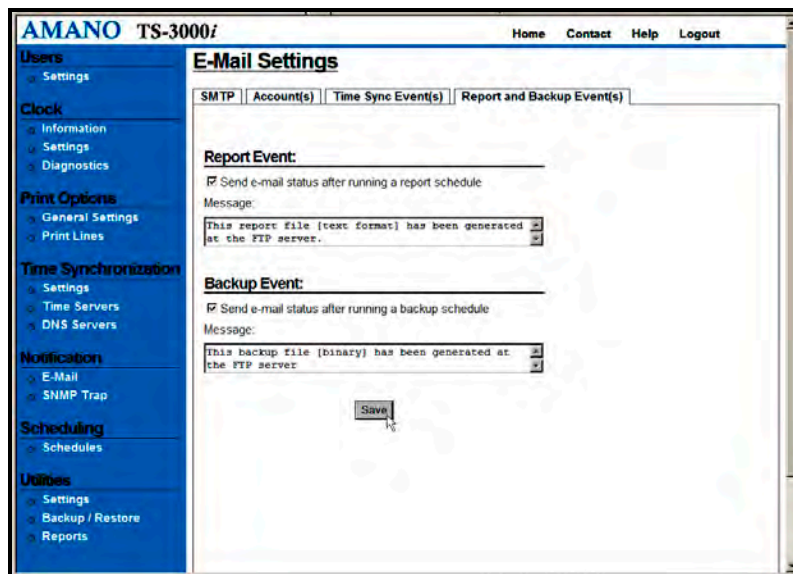

Figure 4-18. E-Mail Settings for Report & Backup Events.
Step 14. Click on the **Report & Backup Event(s)** tab and the E-Mail Settings screen to select these events for email notification will appear (see *Figure 4-18*).